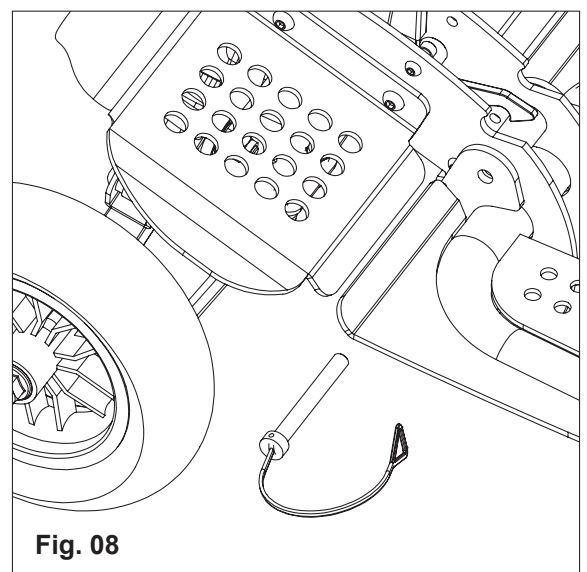

Fig. 08
- 2) Open the wire clip of D-pin, and remove the D-pin (Fig.08).